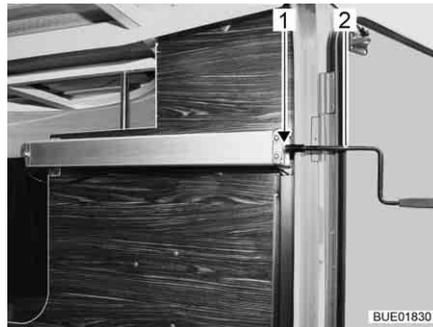

Fig. 143 Crank in the rear garage
- Attach the crank (Fig. 143,2) onto the journal (Fig. 143,1).